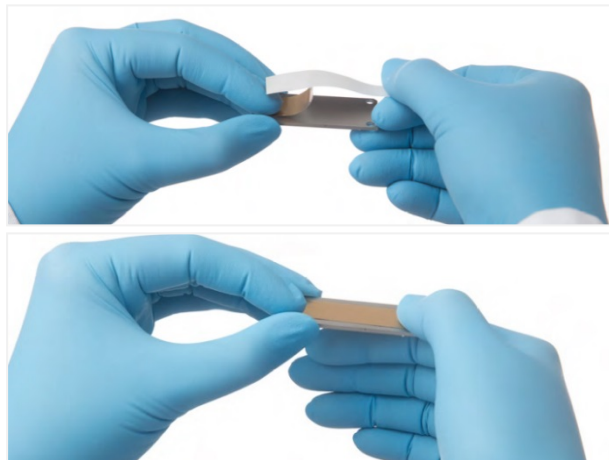

Figure 4. Sealing flow cell ports.
7. Seal both flow cell ports with the sealing tape (see Figure 4).